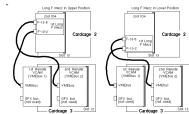

Figure 3-71 Cabling for Two Cardcage 3 VMEbuses with a Single Long F Mezz Card
7. Working from the front of the chassis, configure the Cardcage 3 backplane for four VMEbuses by installing the terminator boards in the locations called out in Figure 3-71.